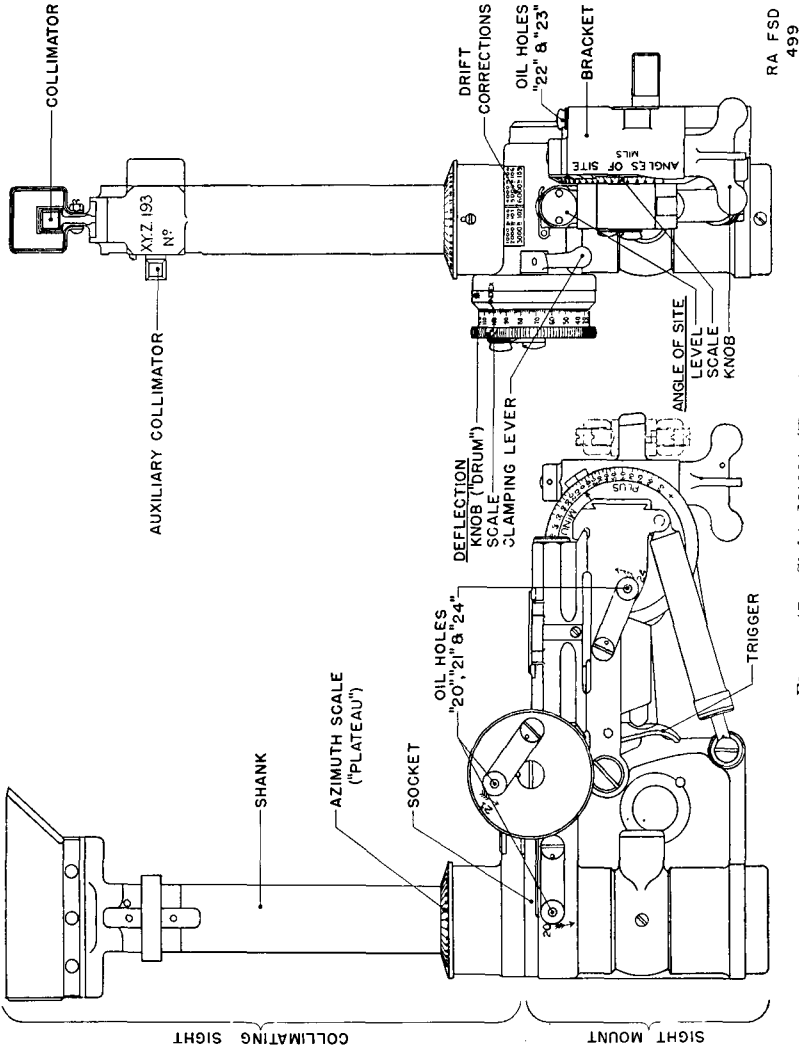

FIGURE 47.—Sight, M1901 (French).
**50. Sight, M1901 (French).**—This sight (fig. 47) furnished with each 75-mm gun and carriage, M1897MI, M1897MIA2, or M1897A4, is the element by which the piece is aimed in direction and laid or aimed to the correct angle of site. No correction for cant is applied.
*b. Operation.*—(1) To place the sight in service, remove cover from sight mount, uncover level, remove collimating sight from carrying case and place in socket of sight mount, taking care that forked projecting arm properly engages the mating parts. When aiming point is above or below the limits of the collimator, withdraw auxiliary collimator from its recess and turn it to the position shown.